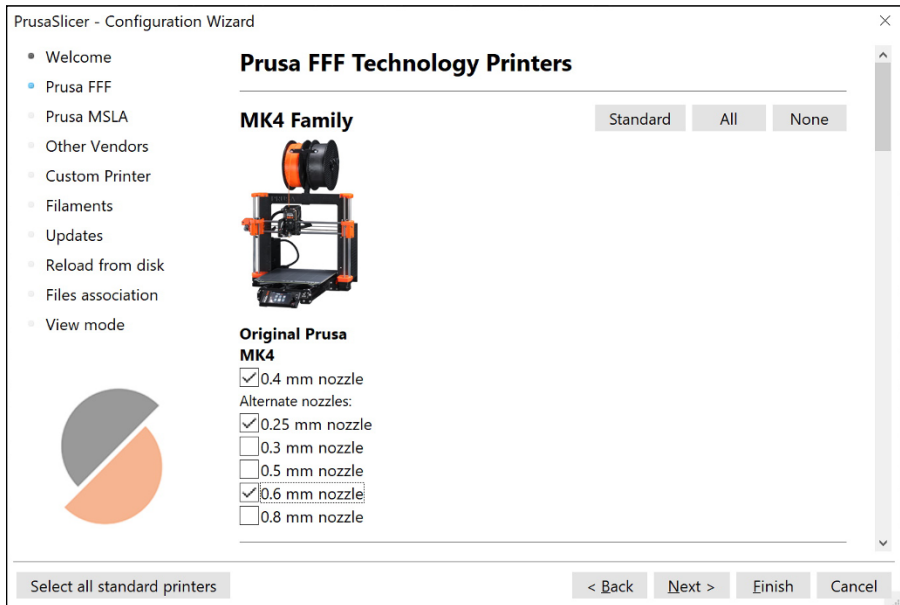

FIGURE 15-12:
3. In the next screen that appears (see Figure 15-12), select the Prusa printer you want from the displayed list (or multiple printers if you have more than one type) and then click Next.